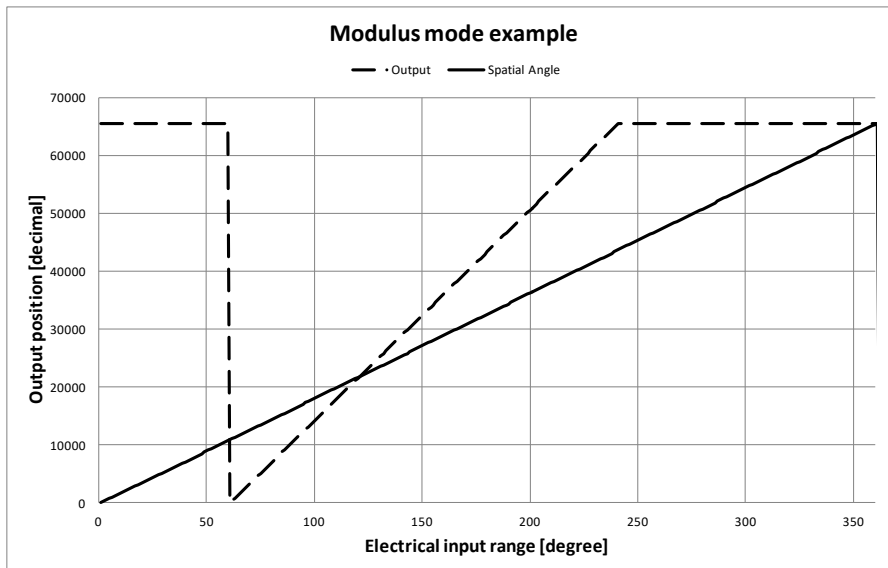

Figure 27. Modulus Output Example with Slope = 2, Offset = 60°
- Modulo 360: The Modulo Output (saw tooth output) Mode is a repeating output mode in which the sensor output signal is not clamped at the mechanical end points, but it is switched back to its origin (see Figure 27).